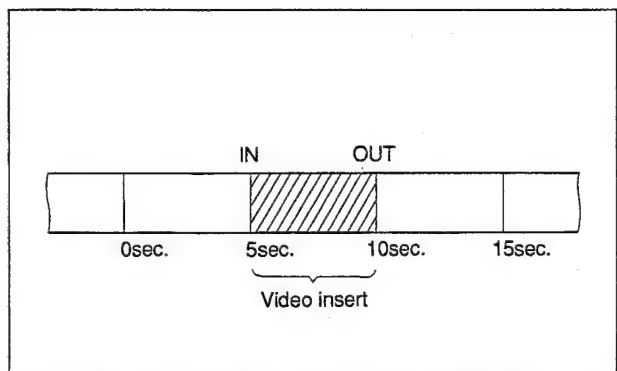

Fig. 6-9-4 Video insert for RV702 and RV703 adjustments confirmation
10. Thread a commercially available tape type P5-90HMP. Put the unit into REC mode about 15 seconds. (See Fig. 6-9-4.)
12. Press the PLAY button from the 0 second point, and press the PLAY and EDIT buttons simultaneously to enter the video insert mode at 5 seconds point without supplying video signal. Press the CUT OUT button to stop the insert mode at 10 seconds point. Put the unit into REV search mode, and rewind the tape to the 0 second point. (See Fig. 6-9-4.)
13. Perform the step 12 operation 5 times. (Repeat the video insert operation at the same position of the tape.) (See Fig. 6-9-4.)